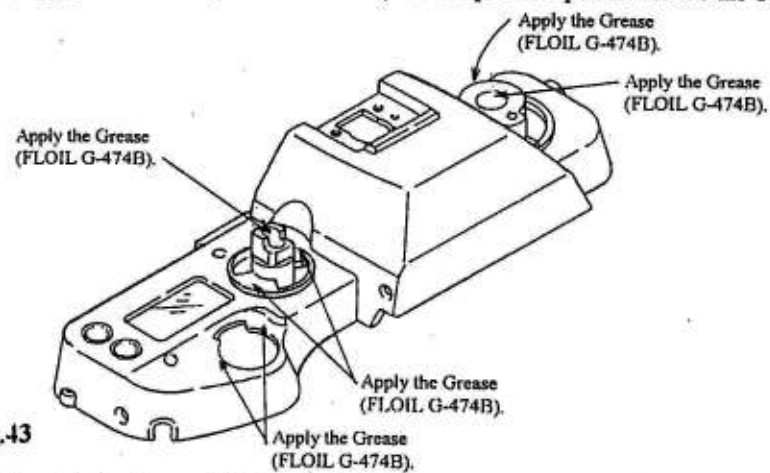

Fig.43
* As shown in Fig. 43, apply the Grease (FLOIL G-474B) to the specified points outside the Top Cover.